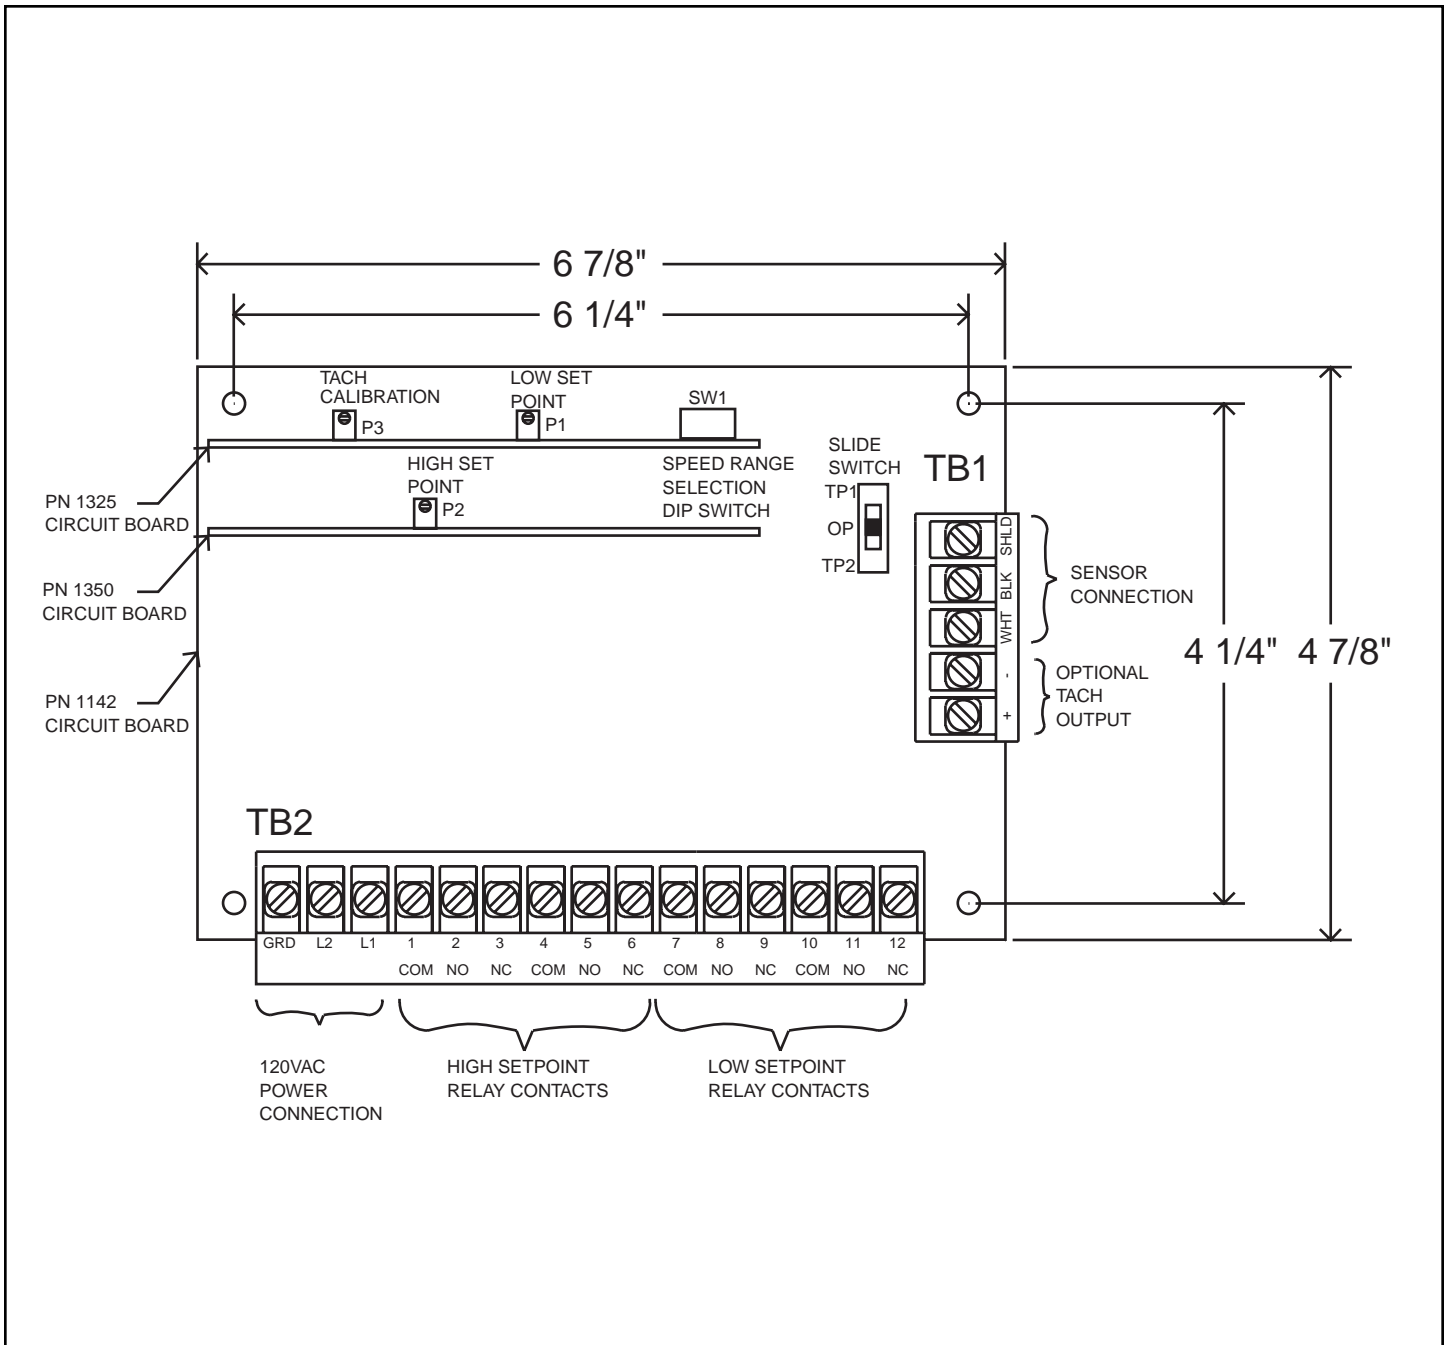
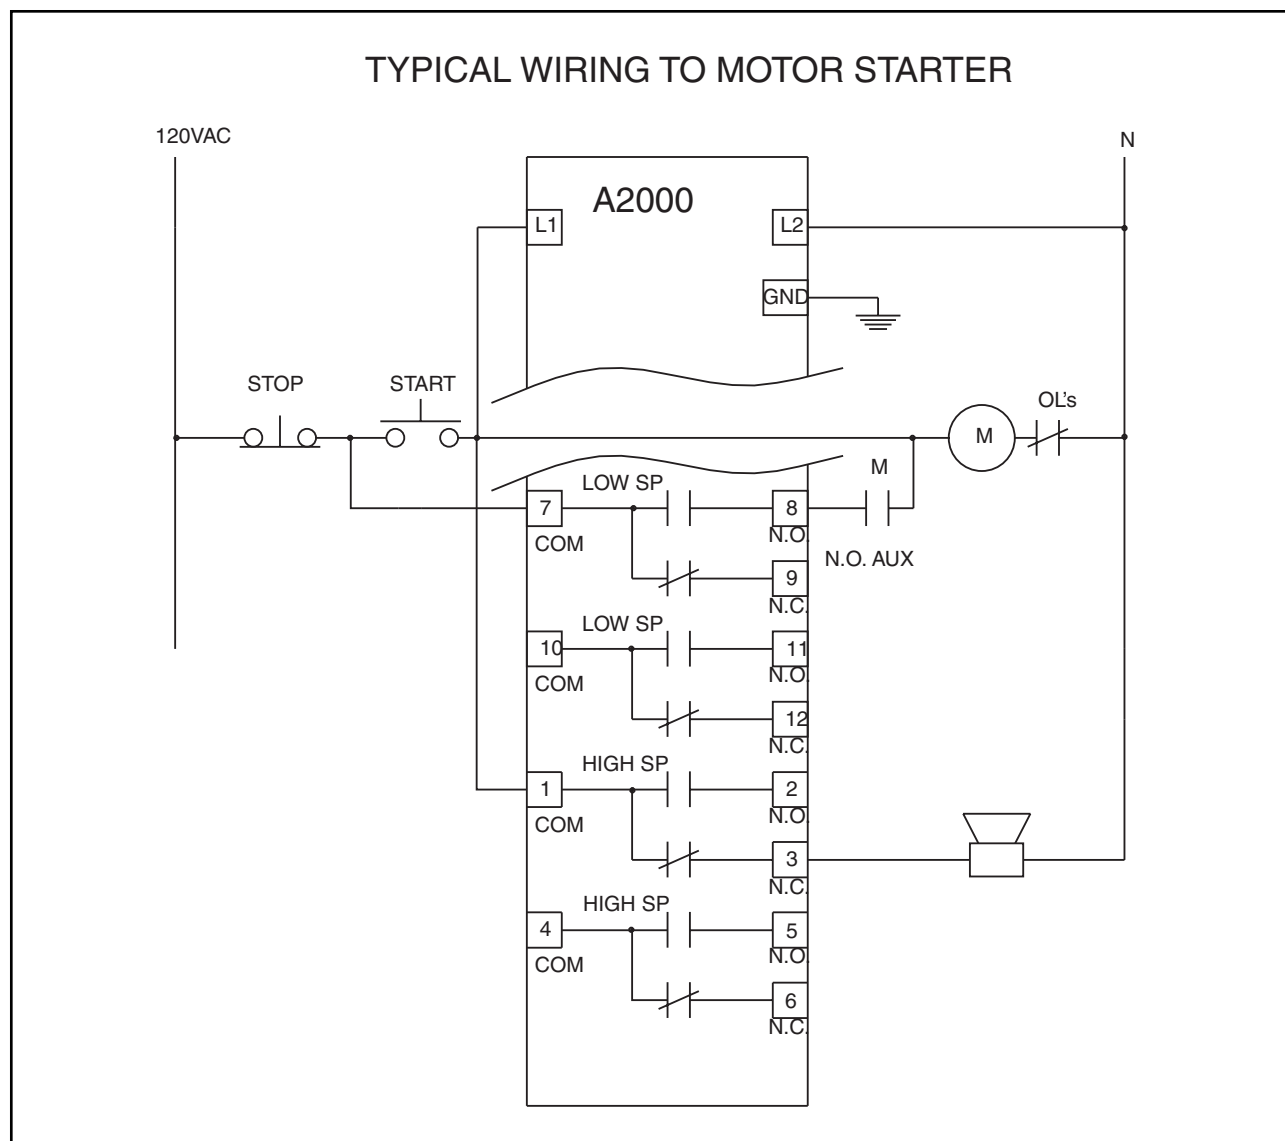

Figure 4
Figure 5
(see figure 4, page 6)
- 6.1** Power connections and relay connections to the A2000 Speed Switch are shown on Figure 4, page 6. Also, figures 5, 6 and 7 show typical wiring diagrams.
- 6.2** Connect 120 VAC power to L1 and neutral to L2 on terminal block TB2 (see figure 4, page 6). See figures 5, 6 and 7 for examples of typical wiring diagrams. Connect equipment safety ground to GRD on terminal block TB2.